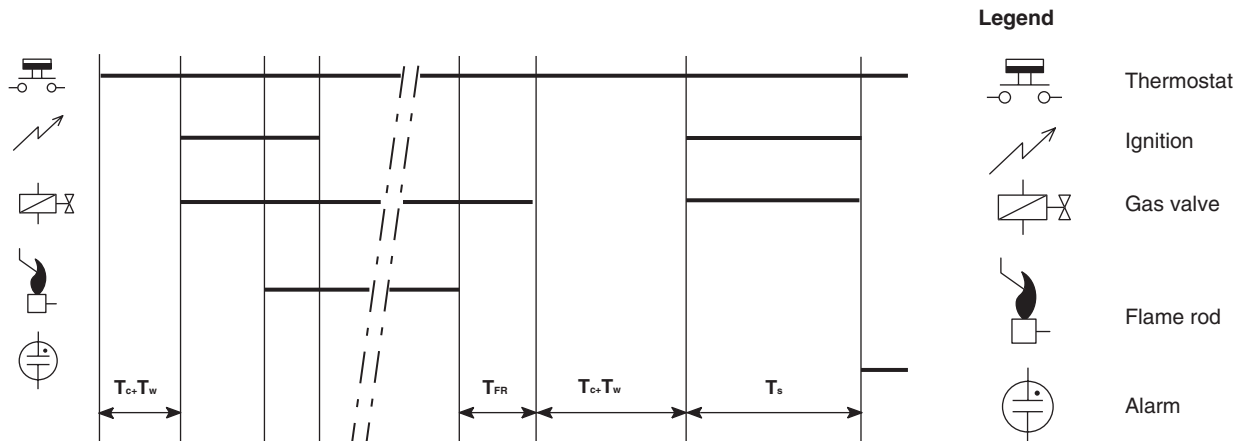

Fig. 19. Timing diagram S4565AD, PD "1000" series
**Suffix AD and PD (see fig. 19.)**